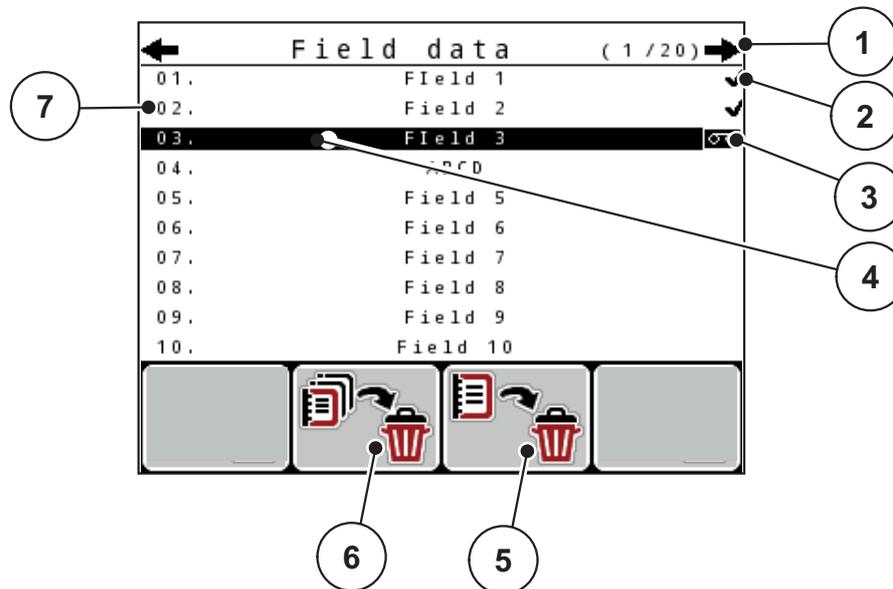

Figure 4.21: Field data menu
3. Press the **F3** function key below the **Delete** icon (see Figure 4.21).
2. Press the **F2** function key below the **Delete all** icon (see Figure 4.21).